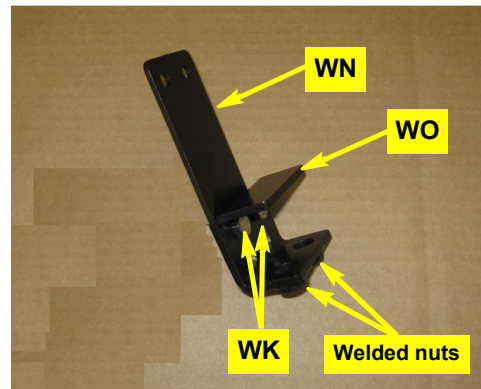

Figure 2a: Bracket assembly (WO and WN)
- a. Using hardware **WK**, fasten clamp bracket **WO** to extension bracket **WN** with the welded nuts on **WO** at the bottom. Use the top holes in bracket **WO** (Figure 2a).